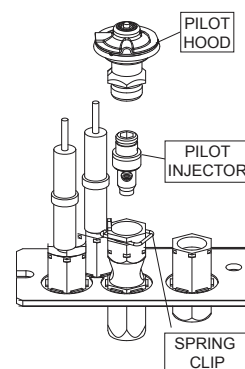

Fig. 3
- ☐ 6. Remove pilot spring clip then the pilot hood from the pilot assembly by pulling vertically. Use a  $\frac{5}{32}$ " Allen key to unscrew the injector. Replace the pilot injector with the one supplied **(Fig. 3)**. Re-assemble the pilot hood onto the assembly and reattach spring clip ensuring key position for proper alignment.